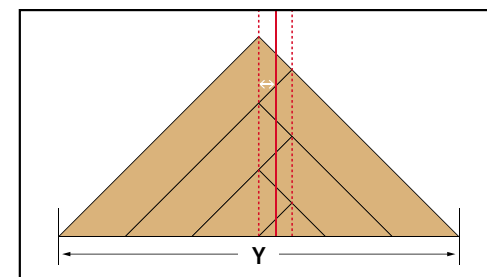

Figure 29
- > Divide this number by two and get the X measurement. The Y measurement is the width of the triangle at its widest point as show in (Fig 29).